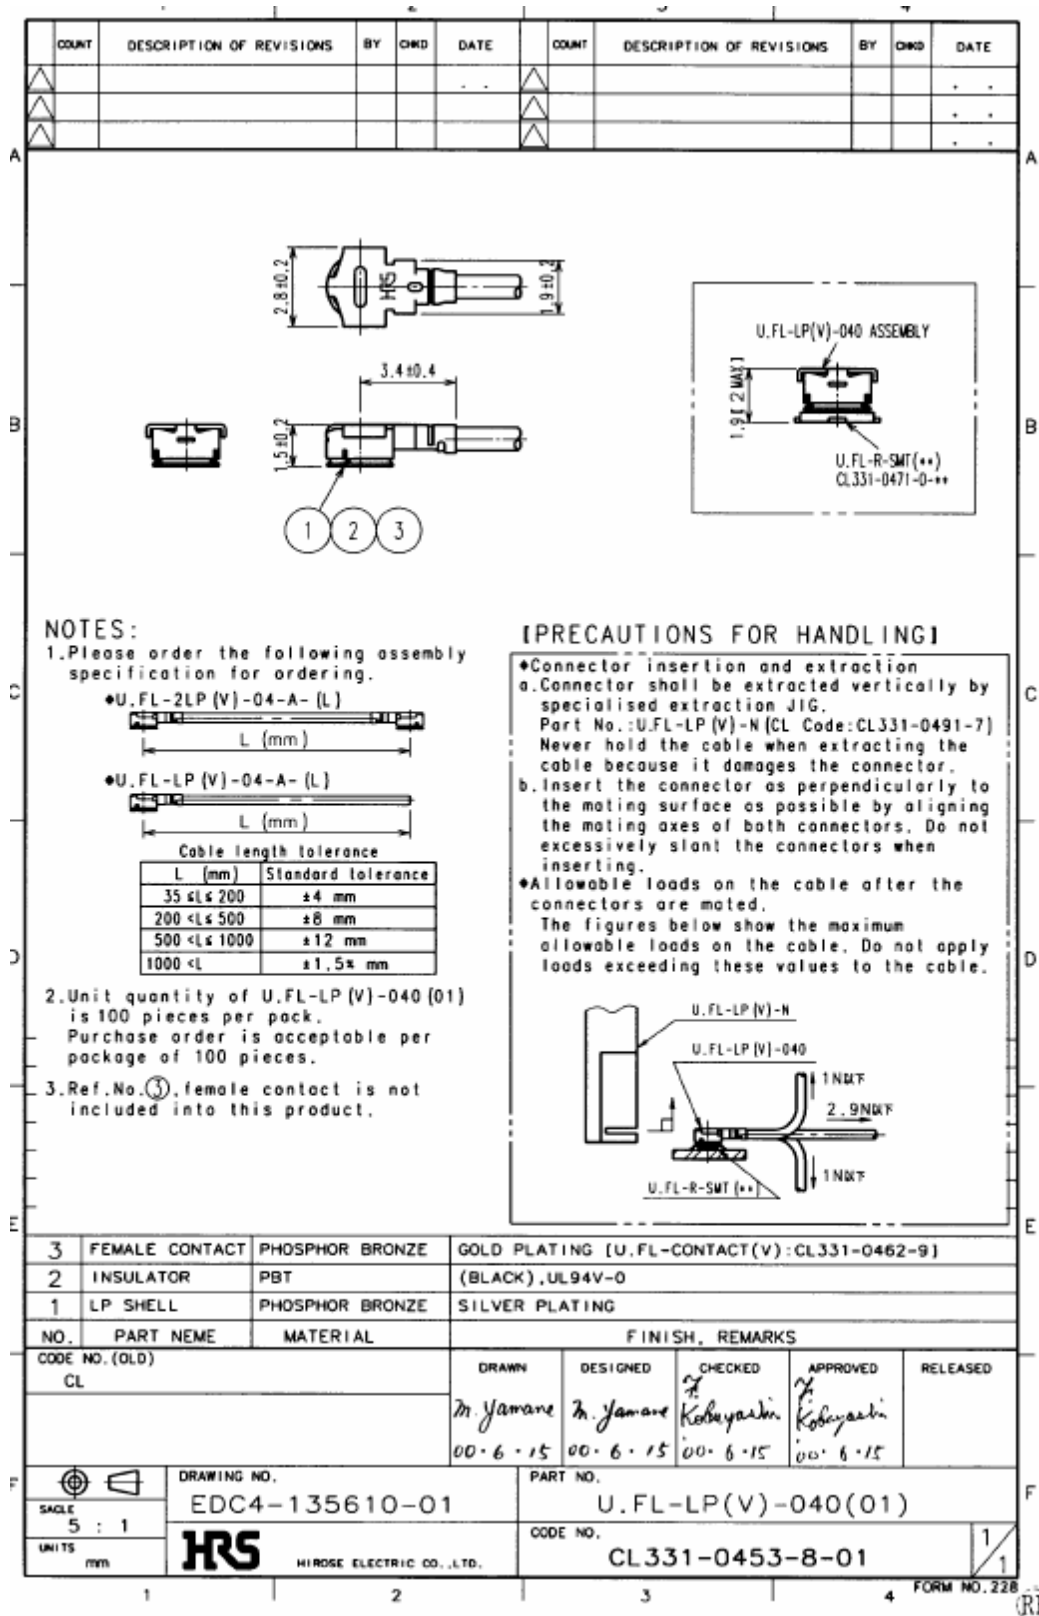

Figure 39: Specifications of U.FL-LP-(V)-040(01) plug
In addition to the connectors illustrated above, the U.FL-LP-(V)-040(01) version is offered as an extremely space saving solution. This plug is intended for use with extra fine cable (up to  $\varnothing 0.81$  mm) and minimizes the mating height to 2 mm. See Figure 39 which shows the Hirose datasheet.